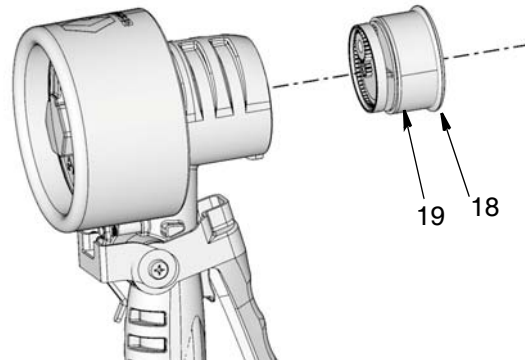

FIG. 12
5. Remove seal (18) and piston assembly (19). If the piston assembly sticks, lightly tap the housing against a flat surface to loosen it (FIG. 12).